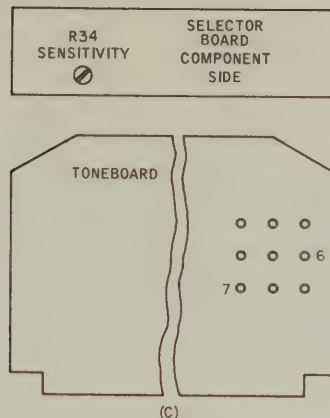

Figure 2-3. RCC-4 Level Setting Detail
- Sensitivity Control — Screwdriver-adjusted miniature potentiometer accessible through the top of the selector decoder board (see figure 2-3).